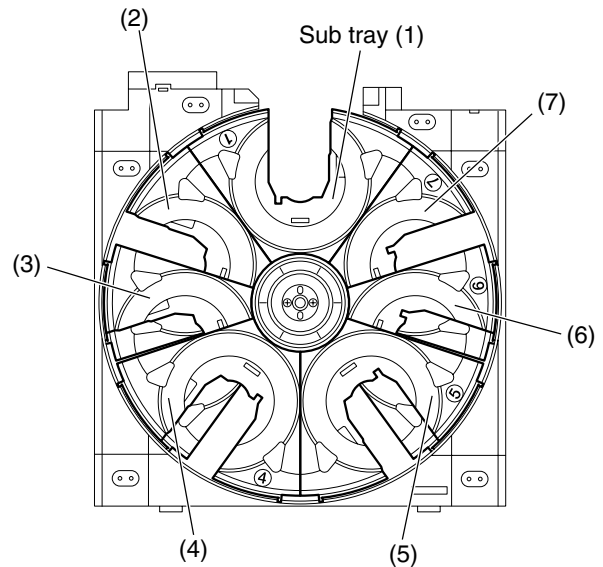

Fig.5
## ■ Sub tray position and operation check (See Fig.5 and 6)
**CAUTION:** Make sure the sub trays are set as shown in Fig.5. When moving the sub trays, put the sub trays which come to the position (4) and (5) forward in turn.